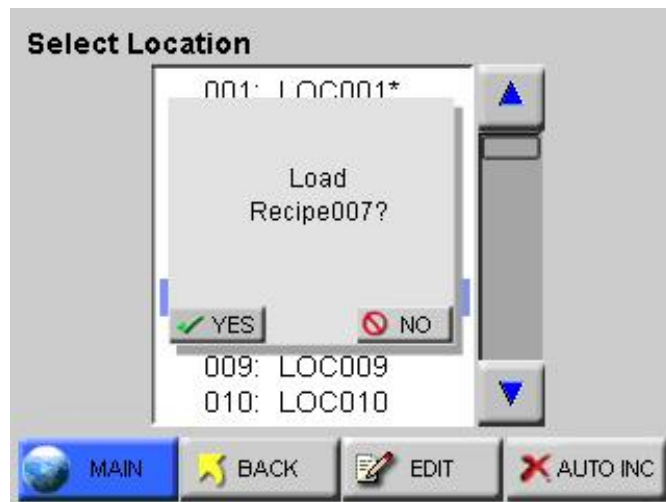

Figure 6-77 Location – Load Recipe
- When selecting a location with a recipe, the user is provided with the option of loading the recipe as shown in Figure 6-77. If the user chooses not to load the recipe, the location can still be used with the current settings.